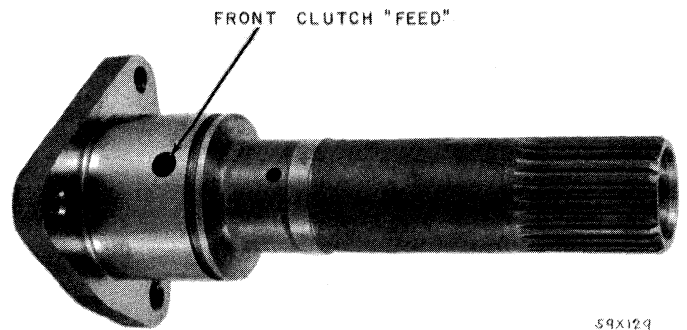

Fig. 118 — Reaction Shaft
**REACTION SHAFT (CAST IRON) (FIG. 118)**